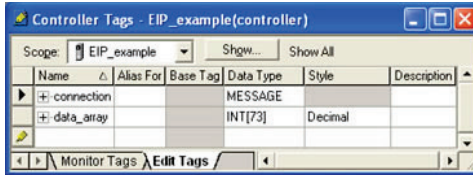

Figure 66: Create New Tags
- b) The "Controller Tags" window appears. Refer to Figure 66.